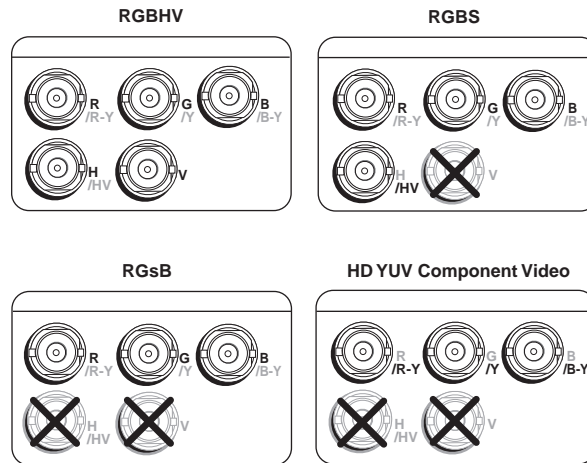

Figure 6. Connecting to BNC Output Connectors
- ⑤ **Reset button** — Pressing this recessed button causes various IP functions and Ethernet connection settings to be reset to the factory defaults (see Resetting on page 9 for more information).
- ⑥ **Reset LED** — This LED, located to the upper-right of the reset button, blinks a varying number of times to indicate which reset mode has been entered (see Resetting for details).
- ⑦ **BNC output connectors** — Plug an output device into these five BNC connectors, as shown in figure 6.